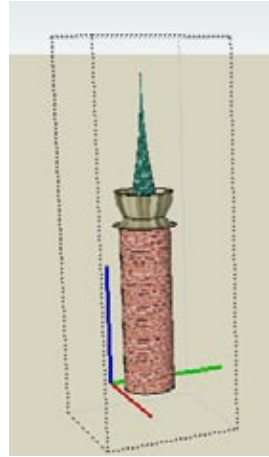

Figure 11-62
7. The next design element to animate is the four towers. Each one is an identical component, so open any one of them for editing (Figure 11-62).